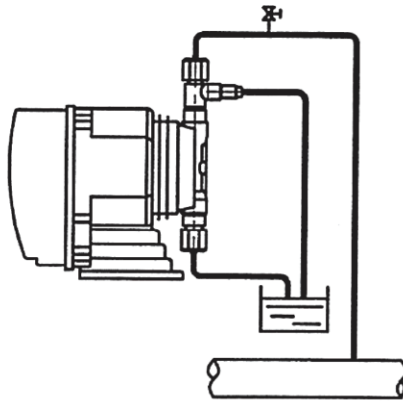

FIGURE 3
- » Install the back pressure valve on the delivery tube (*Figure 3*).